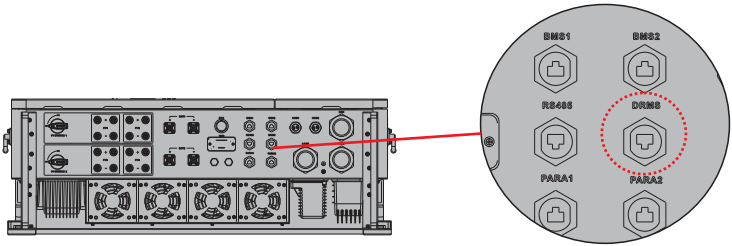

Figure 4.5-1 DRMS interface
Step 1.Screw this plate off from the inverter. See Figure 4.5-1.